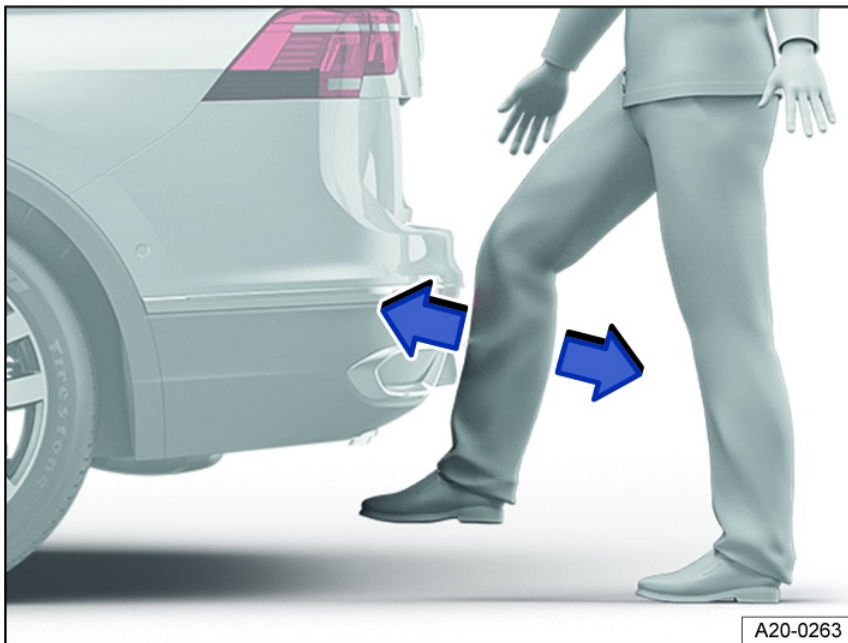

Fig. 60 General example of the sensor-controlled luggage compartment opener (Easy Open).
2. Quickly swing the lower part of your leg close to the bumper *fig. 60*.